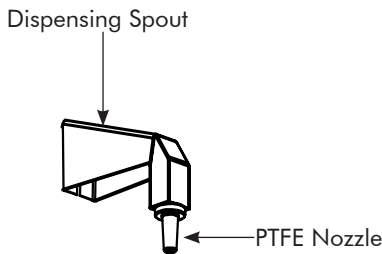

Fig 21.2
2. Secure the Dispensing Spout with the provided screws (*fig. 21.2*).
3. Connect the distilled water silicone tubing from the spout to the PTFE Nozzle (*fig. 21.2*).